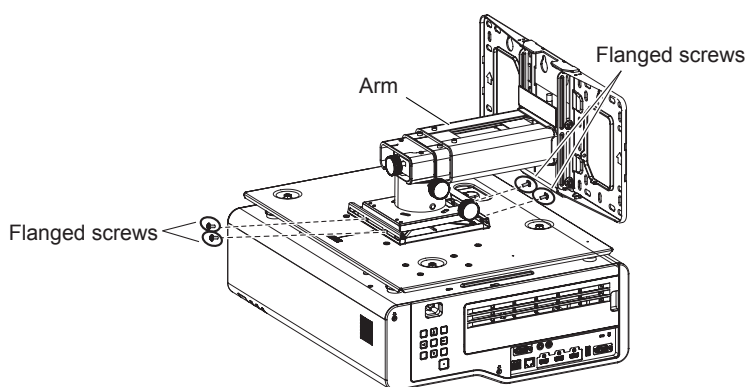

Fig.4
**4) Secure the projector mount bracket to the wall mount bracket using the four supplied flanged screws (M4 × 10). (Fig.4)**